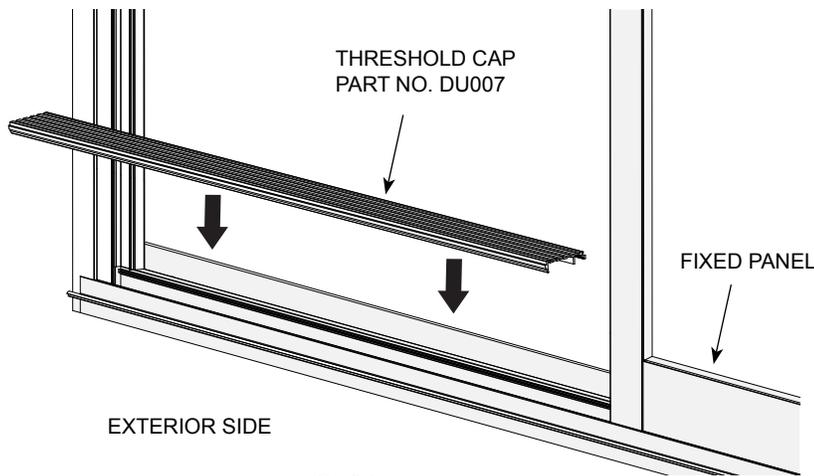
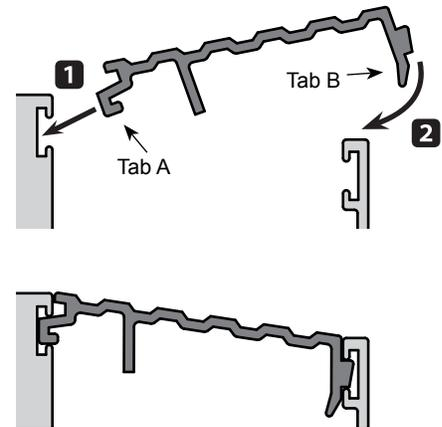

FIG. 24
FIG. 25
1. Install the threshold cap into the sill between the fixed panel and the lock jamb. (FIG. 24)
2. To install the threshold cap, first insert Tab A into the center leg of the sill and snap Tab B into the exterior leg of the sill. (FIG. 25)
7. Install threshold cap and seal as shown in FIG. 24 and FIG. 25.